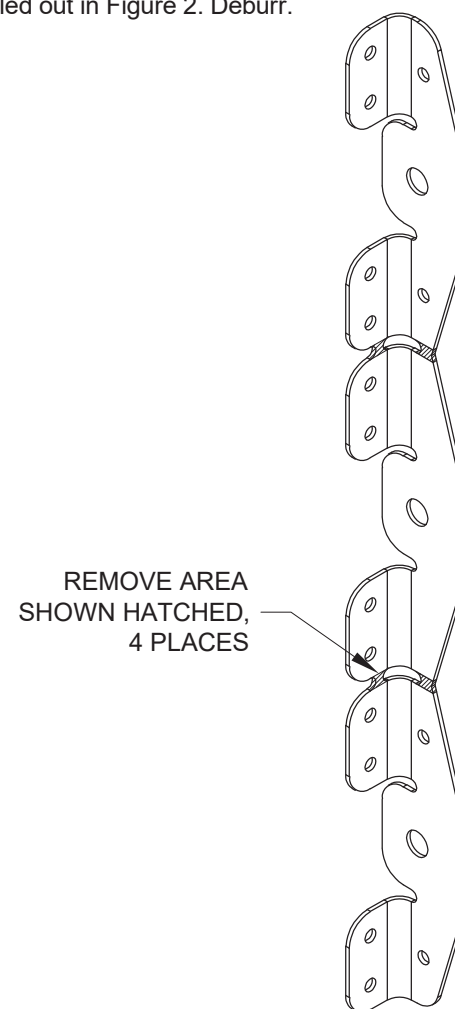

FIGURE 2:
Step 3: Separate the F-1211D Attach Brackets by removing the material called out in Figure 2. Deburr.